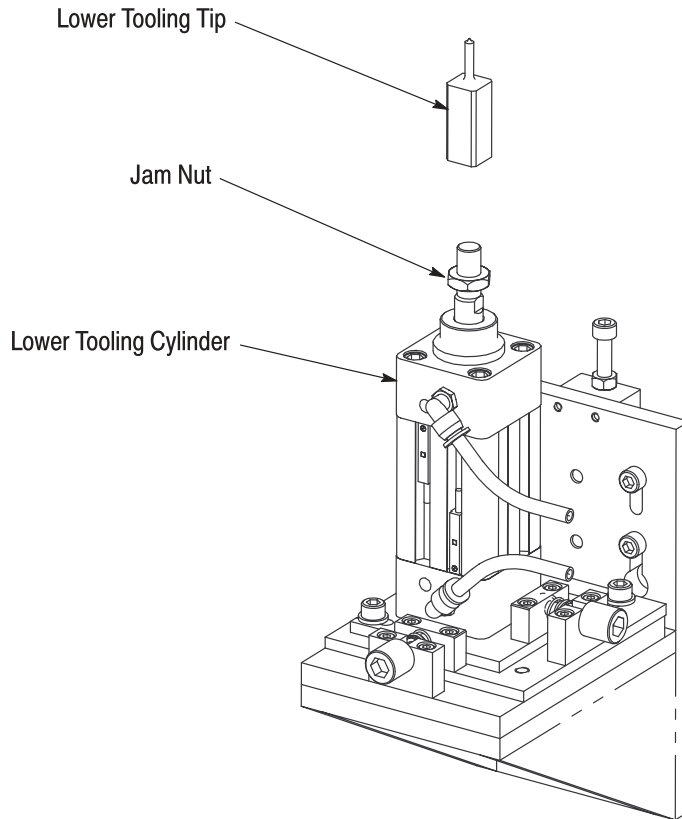

Figure 7
3.3. Installing Lower Tooling Tip onto Machine (See Figure 7)
3. Align the lower tooling tip with the proximity switch bracket as shown in Figure 7, then tighten the jam nut onto the cylinder shaft to lock the lower tooling tip into position.
4. Using the hardware, attach the proximity switch bracket to the lower tooling cylinder as shown in Figure 7.
3. Remove the hardware, then remove the proximity switch bracket from the lower tooling cylinder (refer to Figure 7).